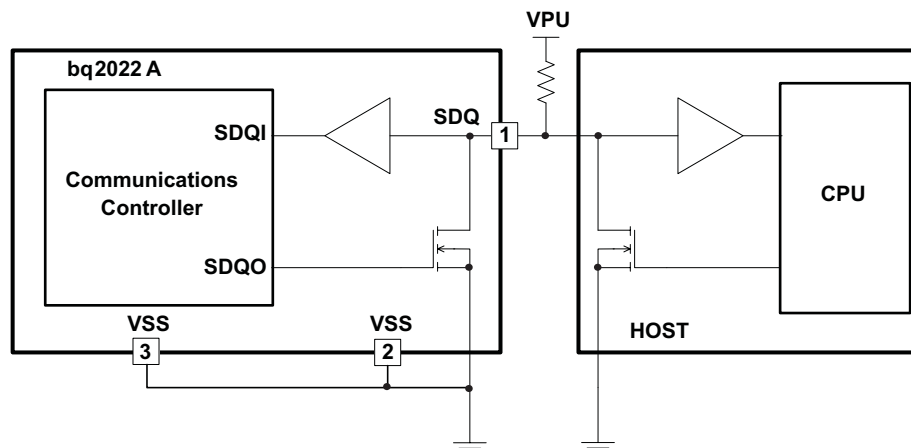

Figure 1. Typical Applications Circuit
(1) 5-k $\Omega$  series resistor between SDQ pin and  $V_{PU}$ . (See Figure 1)
Because the drive output of the bq2022A is an open-drain, N-channel MOSFET, the host must provide a source current or a 5-kΩ external pullup, as shown in the typical application circuit in Figure 1.